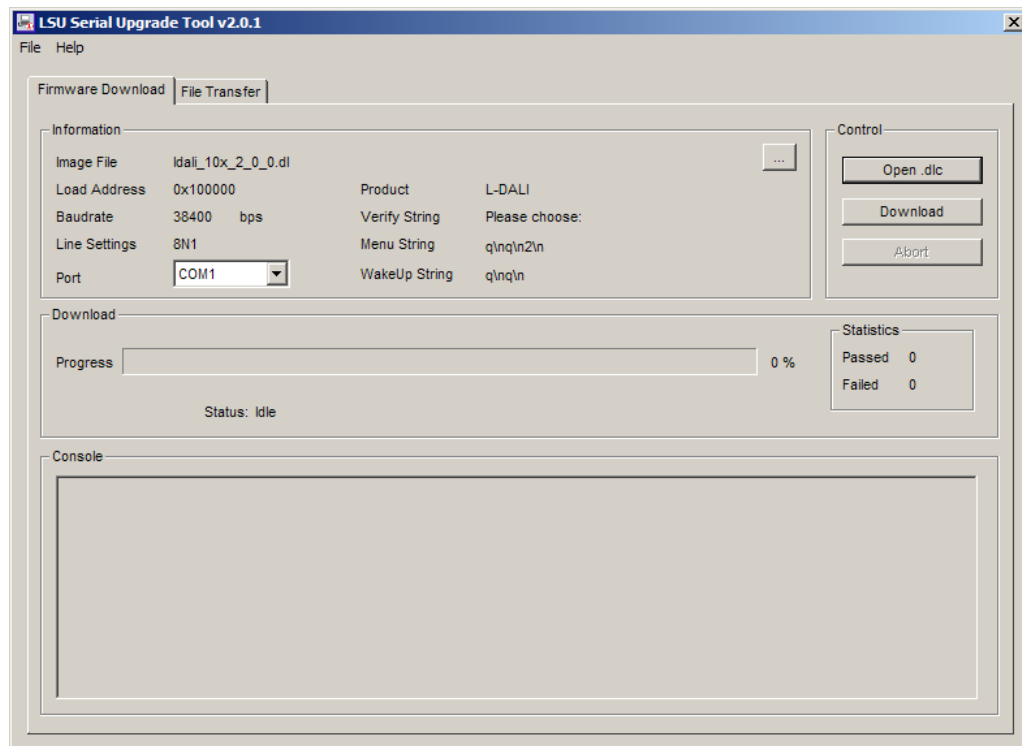

Figure 255: LSU Serial Upgrade Tool in Idle Mode
1. Double click on the \*.dlc file that comes with the new firmware package. This should start the LSU Tool and load the firmware image referenced in the dlc file. Please note that the dlc file and the dl file must be stored in the same folder. The start window of the LSU tool is shown in Figure 255.